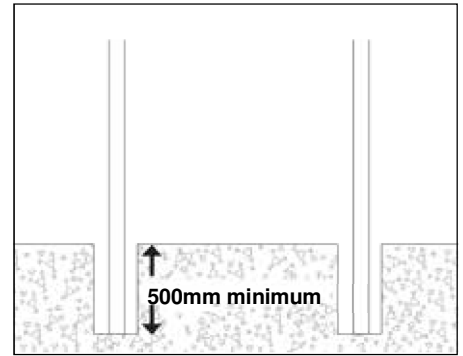

Figure 5
- A. Dig the footing holes for the posts. Holes must be a minimum of 250mm in diameter and 500mm deep into compact and solid ground. Adjust the holes dimension without reducing the height of the post above the ground, see **Figure 5**. Check and measure the height of the posts to allow for at least 1830mm height (for 1.8m fence).